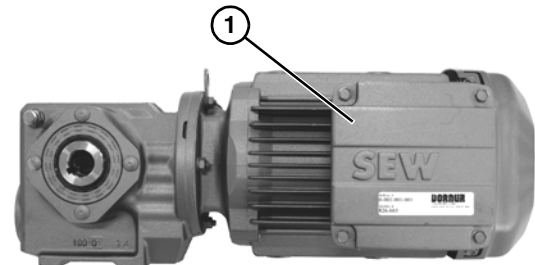

Figure 12
- Remove cover (**Figure 12, item 1**).